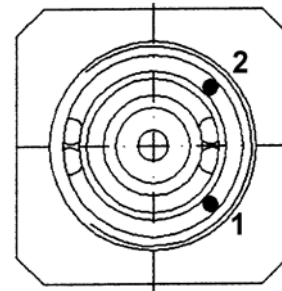

Figure 2: Indexing Pin Locations
AIR CAP INSTALLATION (Refer to Figure 2)
1. The air cap positioning depends upon the baffle position. Fit the baffle first on the gun body as shown in Figure 2.